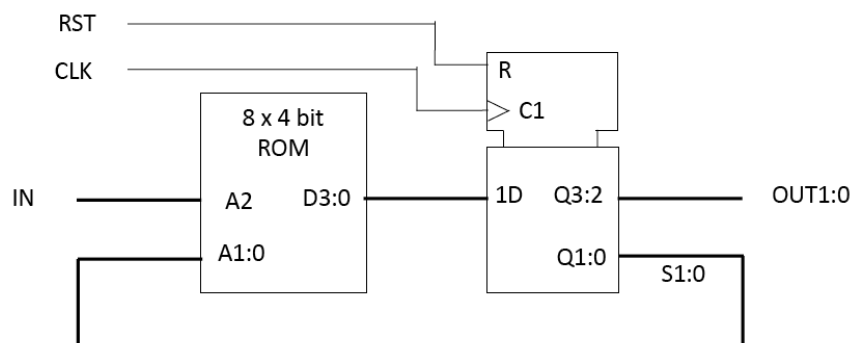

Figure 2.1
2. *Figure 2.1* shows a finite state machine (FSM) with 1-bit input IN and 2-bit output OUT1:0, implemented using an 8 x 4-bit ROM and a 4-bit register. The input IN to the FSM drives the upper bit of the ROM address A2. The output of the ROM D3:0 is connected to the data input of the register. The lower 2 bits of the ROM data D1:0 provide the next state value, which are fed back to the lower 2 bits of the ROM address A1:0 through the state register S1:0. The upper 2 bits of the ROM data D3:2 provide the FSM output value. The reset input RST clears the register.